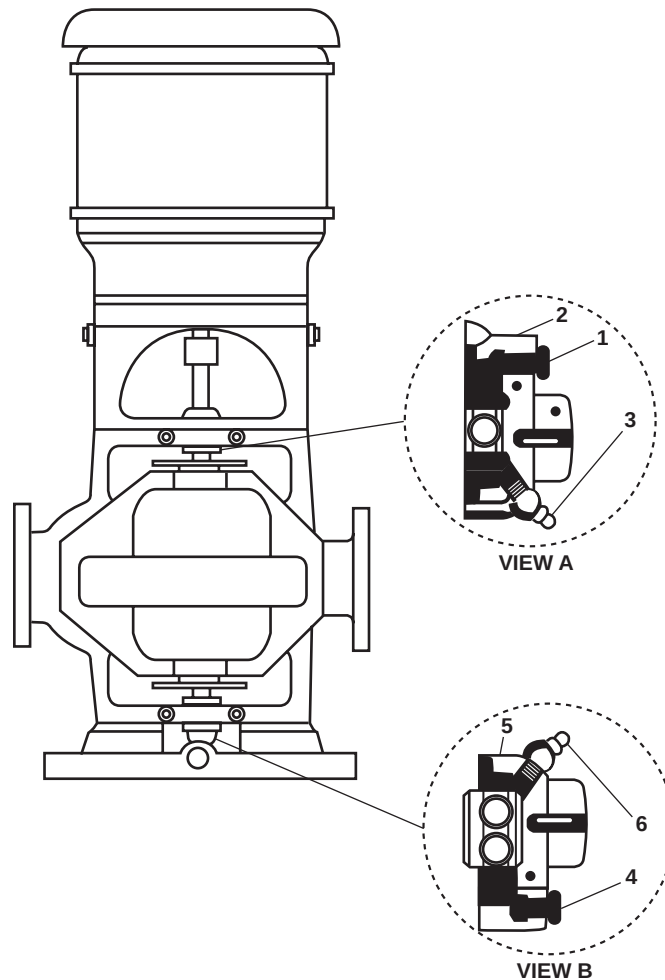

Figure 1. Fire and General Service Pump
3. Remove the drain plug (figure 1, item 1) from the upper bearing cartridge (figure 1, item 2).
4. Inject new general purpose grease into the upper grease fitting (figure 1, item 3) using a lubricating gun until the old grease is seen coming from the drain opening. Wipe any excess grease from the grease fitting using a wiping rag.
5. Remove the drain plug (figure 1, item 4) from the lower bearing cartridge (figure 1, item 5).
6. Inject new general purpose grease into the lower grease fitting (figure 1, items 6) using a lubricating gun until the old grease is seen coming from the drain opening. Wipe any excess grease from the grease fitting using a wiping rag.
7. Leave out the upper and lower drain plugs (figure 1, items 1 and 4) and perform the Follow-On Service procedure at the end of this work package.